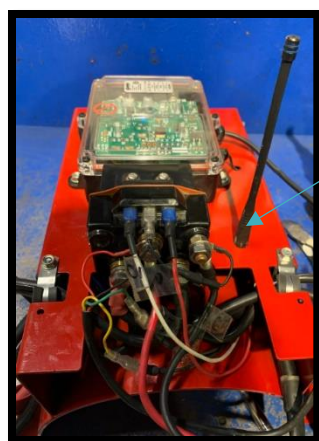
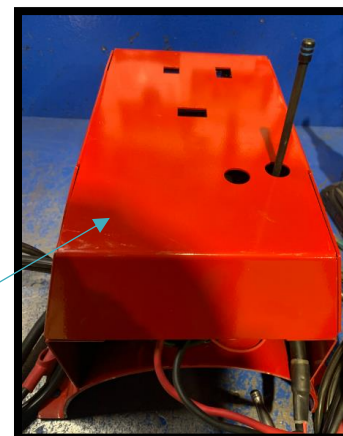

Figure 23
Figure 24
- h. Mount Antenna as shown in Figure 23 and attach receiver cover (57453) and torque #14 X 5/8" Sheet Metal Screw (19274) screws to secure cover down as shown in Figure 24.